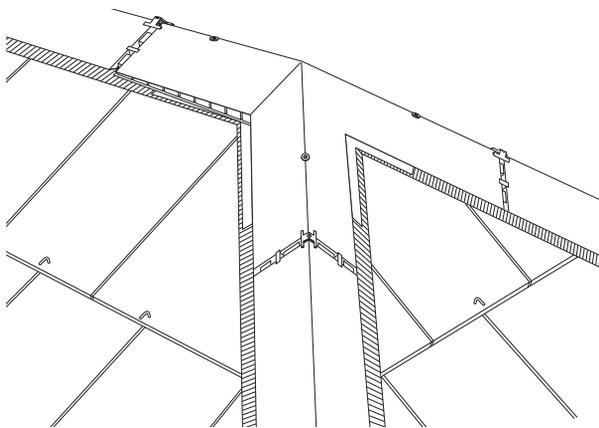

Fig 8: Hip apex
- 12 At apex, (see Fig. 8) ensure final hip tile is a full length unit, with any adjustments to suit the length of hip taken up by cutting the adjacent one or two Hip tiles.